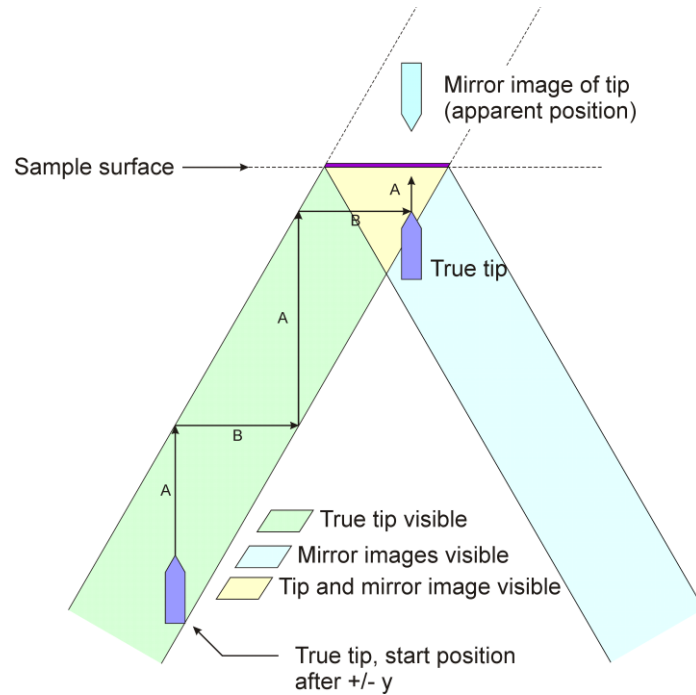

Figure 27. Tip-sample approach, schematic diagram.
4. Turn the CCD zoom to maximum and repeat steps A and B, see figure 27, until you see the tip and its mirror image on the sample: